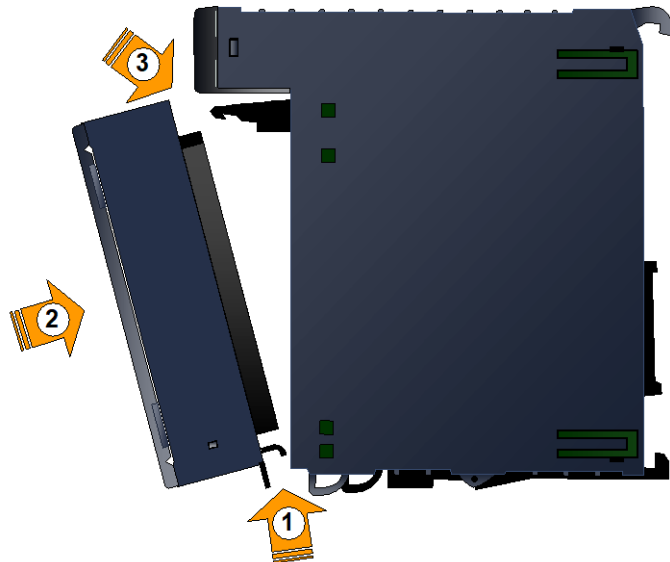

Figure 30: Installing Terminal Block into I/O The module
- To install a terminal block (Figure 30):